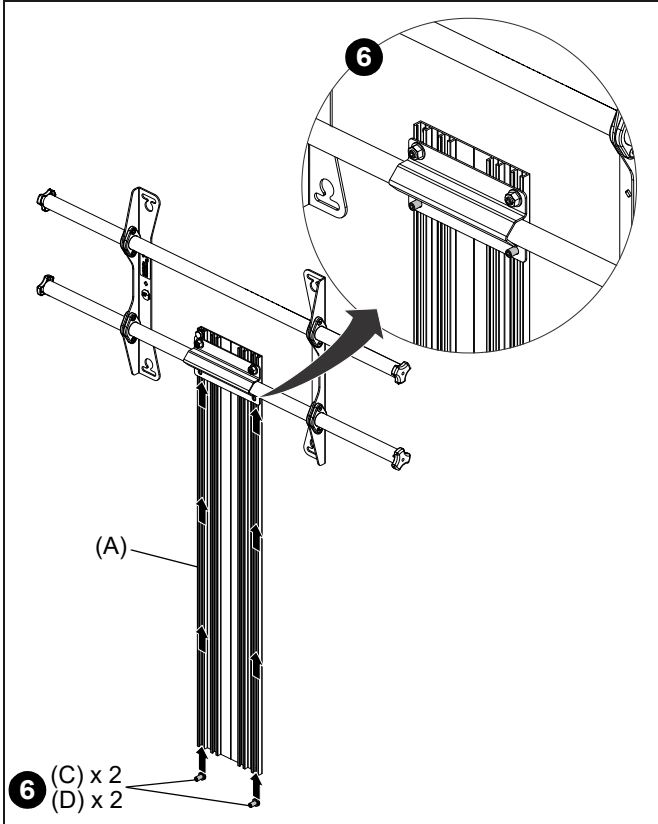

Figure 5
6. Slide two assembled M8 x 20mm screws (C) and M8 nuts (D) up into the outside channels from the bottom of the upright extrusion (A) until they are positioned through the bottom holes in the bar clamp. Tighten the screws to hold them in position. (See Figure 5)